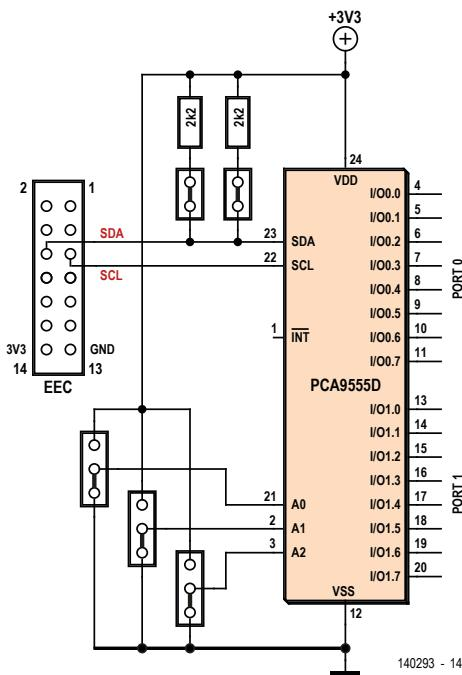

Figure 4. The PCA9555 on the Gnublin board.
**Figure 4** shows how the IC can be connected to the Elektor Extension shield using the EEC connector. The I2C bus lines and supply voltage lines are connected using a flat cable. The two pull-up resistors on the Gnublin board are connected to the bus lines by a pair of jumpers. These jumpers must be fitted if only one board is connected. If you use several boards, perhaps connected using the Gnublin distributor board [2], make sure that the pull-up resistors are only enabled on one board. It is possible to use several port expander boards because each board has jumpers for configuring address lines A0 to A2. In the default state, all three lines are tied to ground. That yields a bus address of 64. A total of eight boards can be connected, with addresses from 64 to 72. With 16 I/O pins per board, that gives you a grand total of 128 I/O lines.